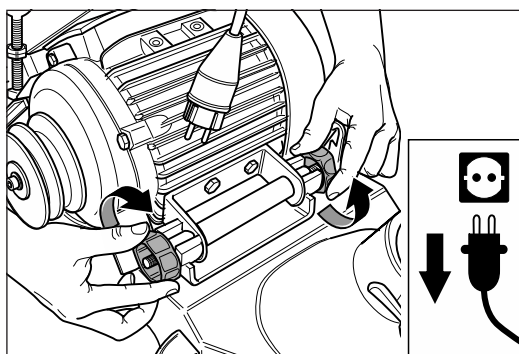

Fig. 115 Tighten the two motor nuts.
- 7 Tighten the two motor nuts (fig. 115).